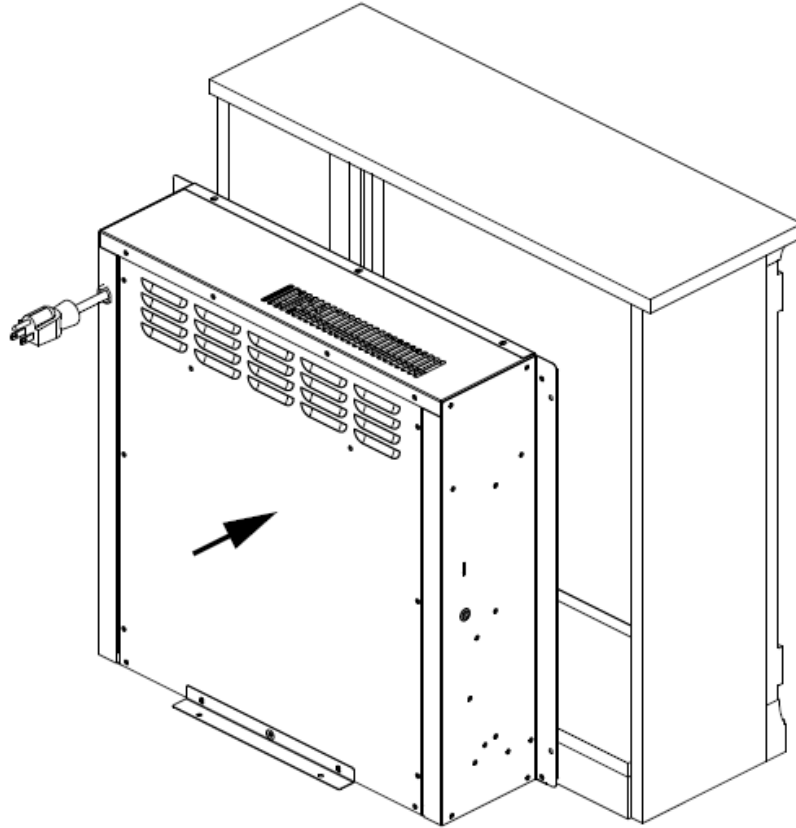

Fig.3
STEP 3. Put the appliance into mantel, See Fig.3